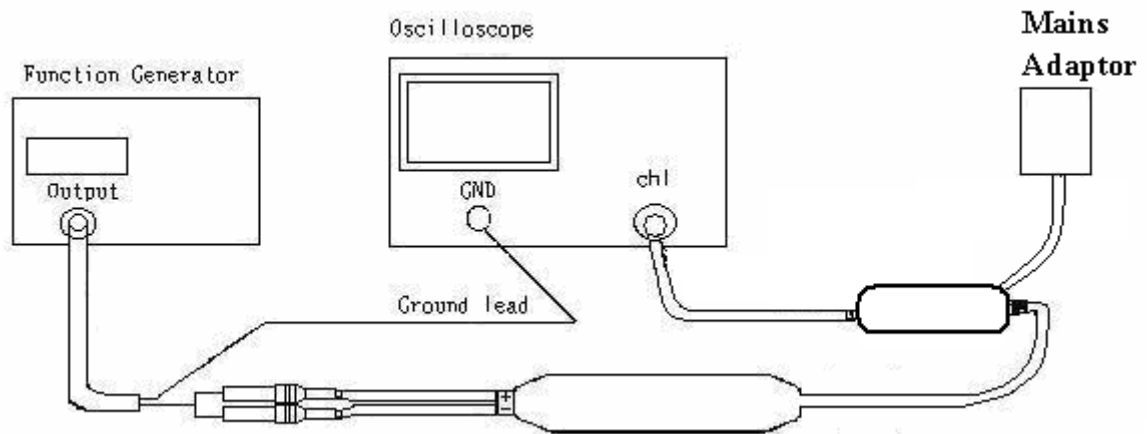

Fig. 8
- G-1. Connect the probe as shown in figure 8.